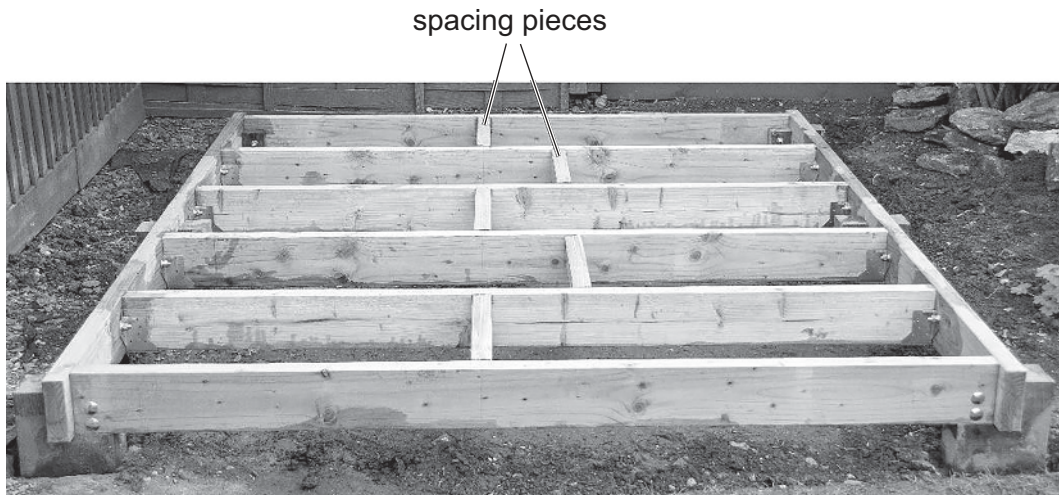

Fig. 10.6
(c) Fig. 10.6 shows the layout of timber in the base of a small wooden building.
- (ii) Give **two** reasons for using the spacing pieces in Fig. 10.6.